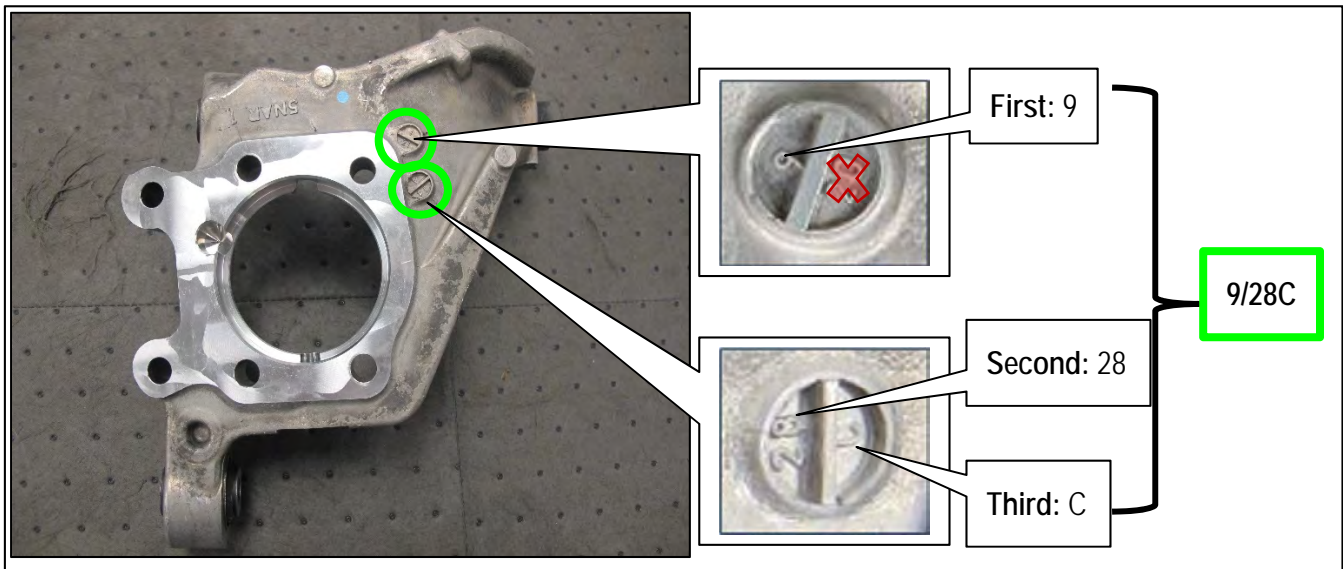

Figure 85
54. Locate the casting stamp dates on each suspension knuckle, where indicated in Figure 85.
NOTE: Orient the suspension knuckle as shown in Figure 85 (RH side is shown, LH side will be reversed).
- a. Write down the upper digit of the casting stamp nearest the bottom of the knuckle. This will be the first digit of the casting stamp date. This is the number "9" of the example below in Figure 85.
- c. Write down the upper digit followed by the lower digit of the other casting stamp. This is the number "28" followed by the letter "C" of the example below in Figure 85.